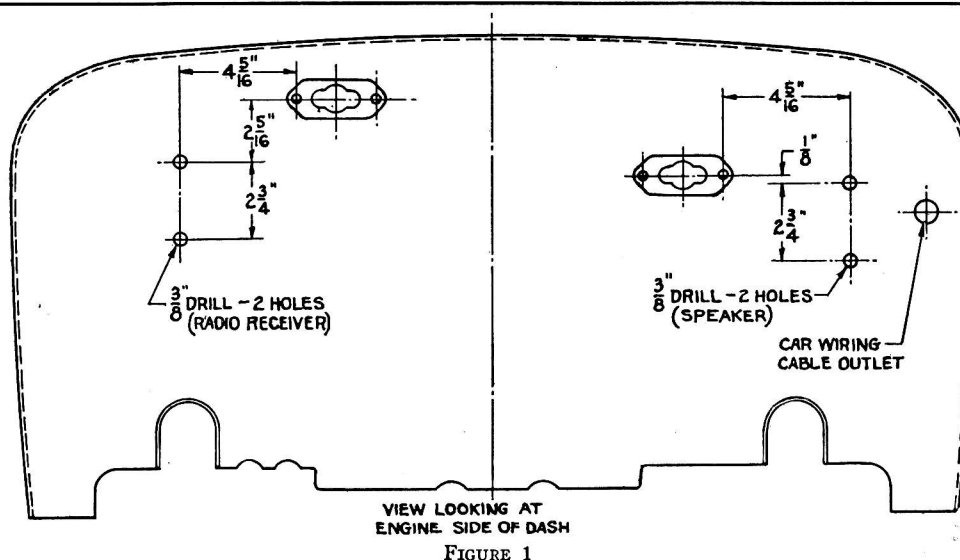

FIGURE 1
Refer to Figure 1, which gives detailed dimensions for the location and drilling of the holes in the dash. Remove the paint from the dash for $\frac{3}{4}$ " from around the holes to insure good ground contact after drilling. All dimensions are shown from the engine side of the dash. After drilling the holes, bolt the two (2) mounting brackets to the inside of the dash, using both the flat and the lockwashers under the nuts. The left-hand bracket (over the steering column) is for the speaker unit; the right-hand bracket is for the Receiver.
The coil windings terminate in leads instead of terminals or lugs. The color scheme of the leads is given in Figure 1.